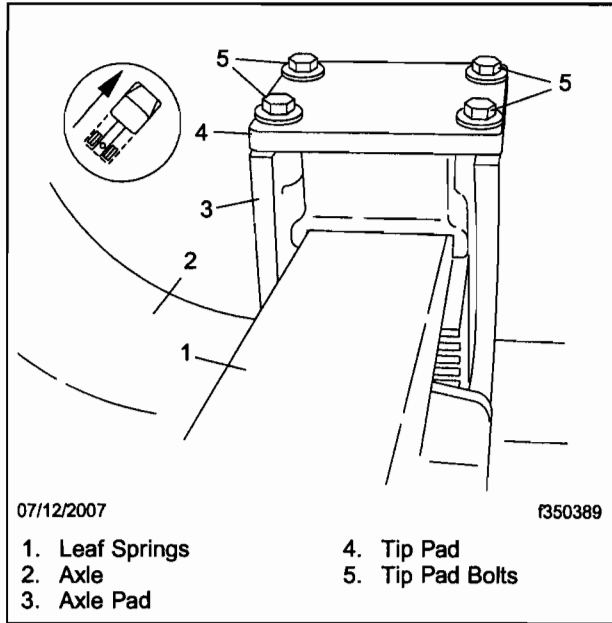

Fig. 4, Tip Pad Installation
2. Remove the tip pad bolts and pads above each axle on the axle clamp. See **Fig. 4**.